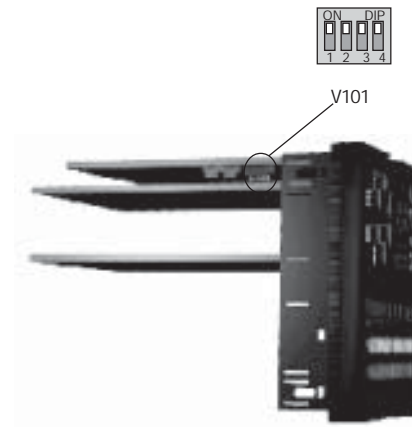

Fig. 16
1) By V101 (see fig. 16) it is possible to select one of the following operative modes: